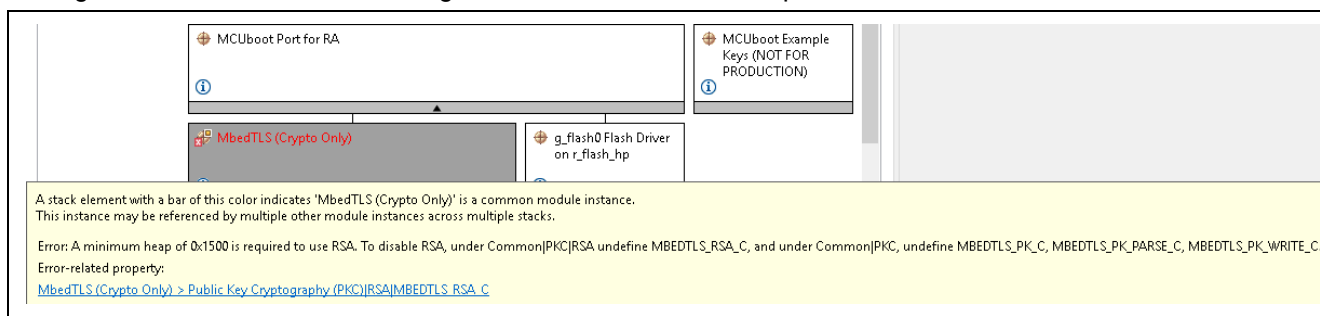

Figure 57. Dependencies of RSA
5. Disable RSA following the prompt in Figure 57. This bootloader design uses ECC for signature generation. Disable the RSA algorithm to save the BSP Heap size.